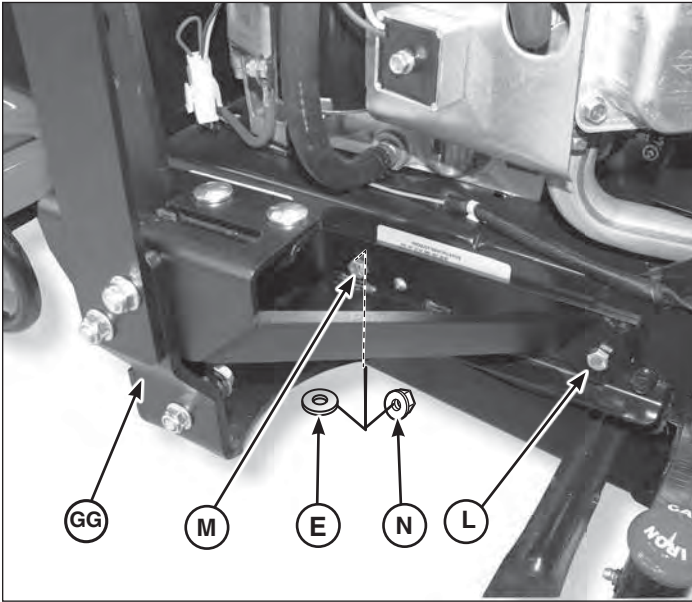

Figure 17
3. Set the lift support assembly (**GG**) on top of the heat shield. Install a capscrew (**L**, Figure 17) into the front hole of the lift support assembly. Place a washer (**E**) between the frame and the lift support assembly.